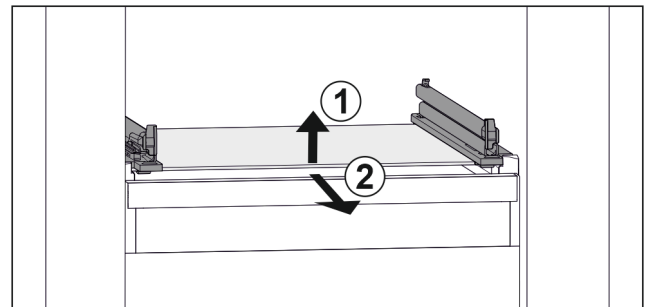

Fig. 133 Example illustration of glass shelf
- ▶ Lift glass shelf at the front. Fig. 133 (1)
- ▶ Remove glass shelf to the front. Fig. 133 (2)